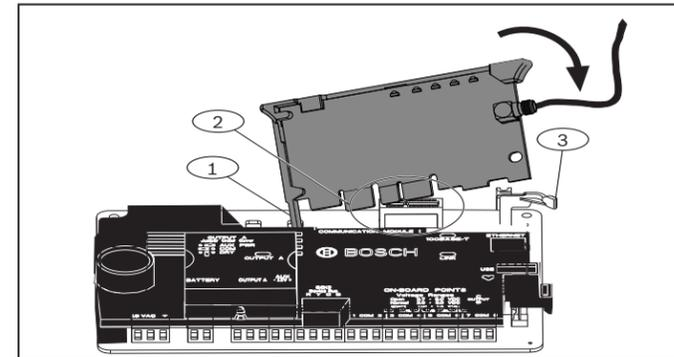

Figure 2.3: Installing the module
1. With the module facing the control panel as shown in *Figure 2.3*, insert the support leg into the support hole labeled X.